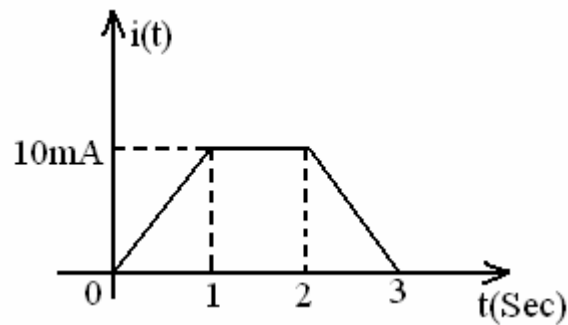

Figure 2
- b) A current wave form shown below in Figure 2 is applied to a capacitor of $2\mu\text{F}$. Find the voltage wave form. [7+8]